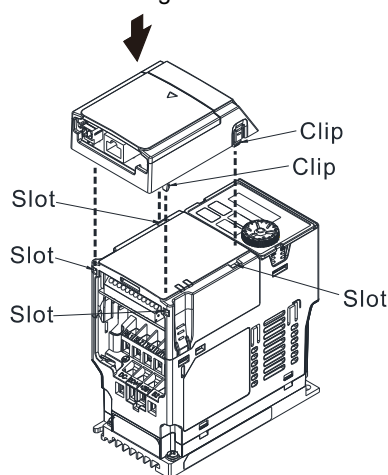

Figure 8-30
8. Assembling the installation box for option card: Aim the four clips of the installation box for option card at the slots on the upper cover of the motor drive, and then press downward to have the four clips engage the slots, as shown in the Figure 8-30.